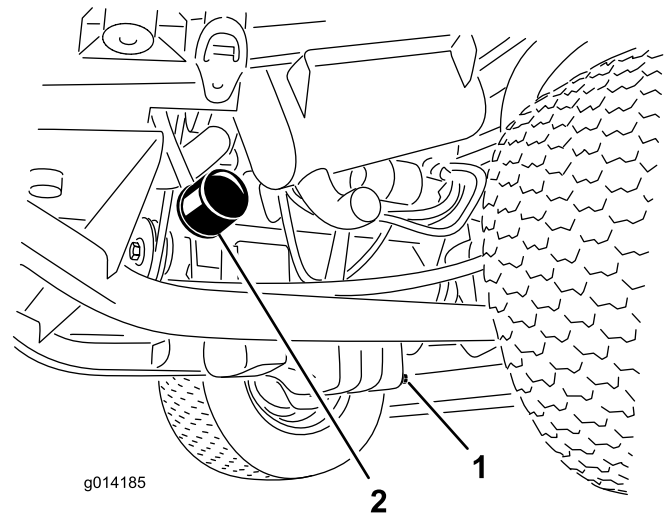

Figure 32
3. Remove the oil filter (Figure 32).
1. Remove the drain plug (Figure 32) and let the oil flow into a drain pan.